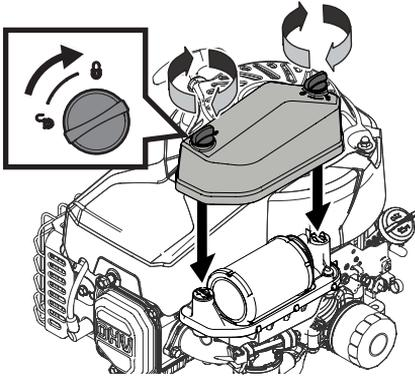

Figure 14
- Attach the air filter cover (Figure 14). Turn thumb screws clockwise a 1/4 turn until snug. Check for any misalignment.